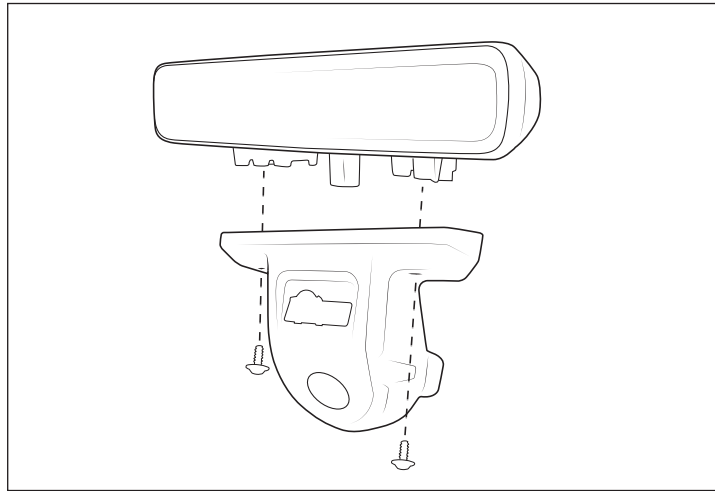

Figure 28
- B. Mount modified third brake light to the AEV bracket using factory hardware (fig. 28).